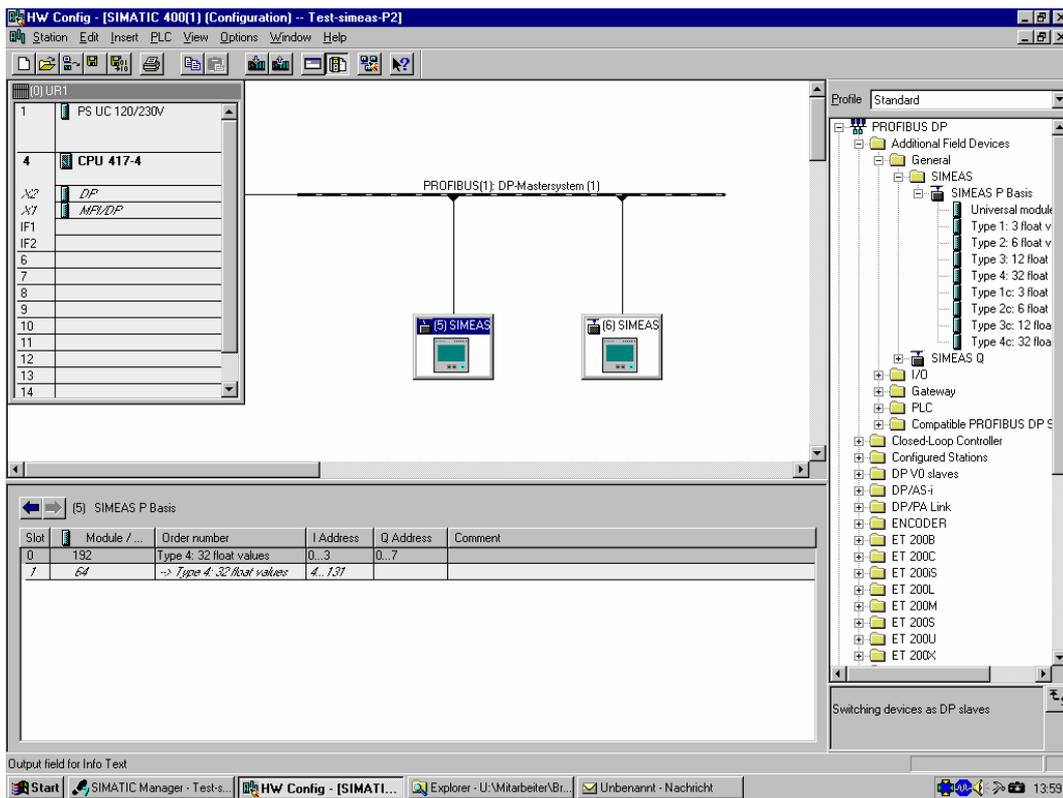

Figure 2-2 Integration of SIMEAS P via GSD file in HW Config of STEP 7
After integrating SIMEAS P into your DP master first select the desired basic type from the device catalog. In the following steps chose the remaining parameters such as e.g. I/O-addresses (see lower left of Figure 2-2) or measured values (chapter 2.5)
**Example:** For a SIMATIC S7 you will find this in STEP 7 under „device catalog“ → „PROFIBUS DP“ → „Additional Field Devices“ → „General“ → „SIMEAS“ → „SIMEAS P Basis“, see Figure 2-2 and Figure 2-3.
**Example:** In STEP 7 HW Config for SIMATIC S7 the basic types are listed as shown in Figure 2-3. Drag the selected basic type over the respective slot in HW Config, see lower left in Figure 2-2. You may need to manually correct the I/O-addresses which have been assigned automatically.